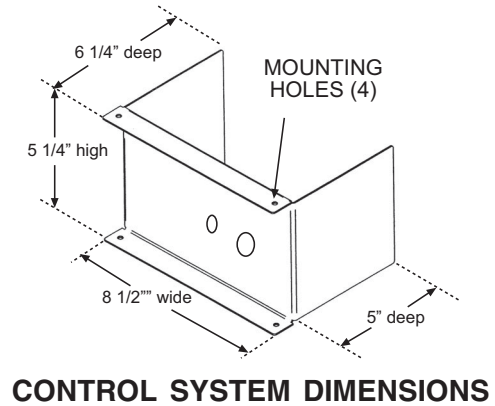

Figure D4.
4. Remove the 4 control face panel attachment screws (on the top and bottom outer edges, page 4, Figure D4), and carefully pull out panel to give access to regulator and orifice location.